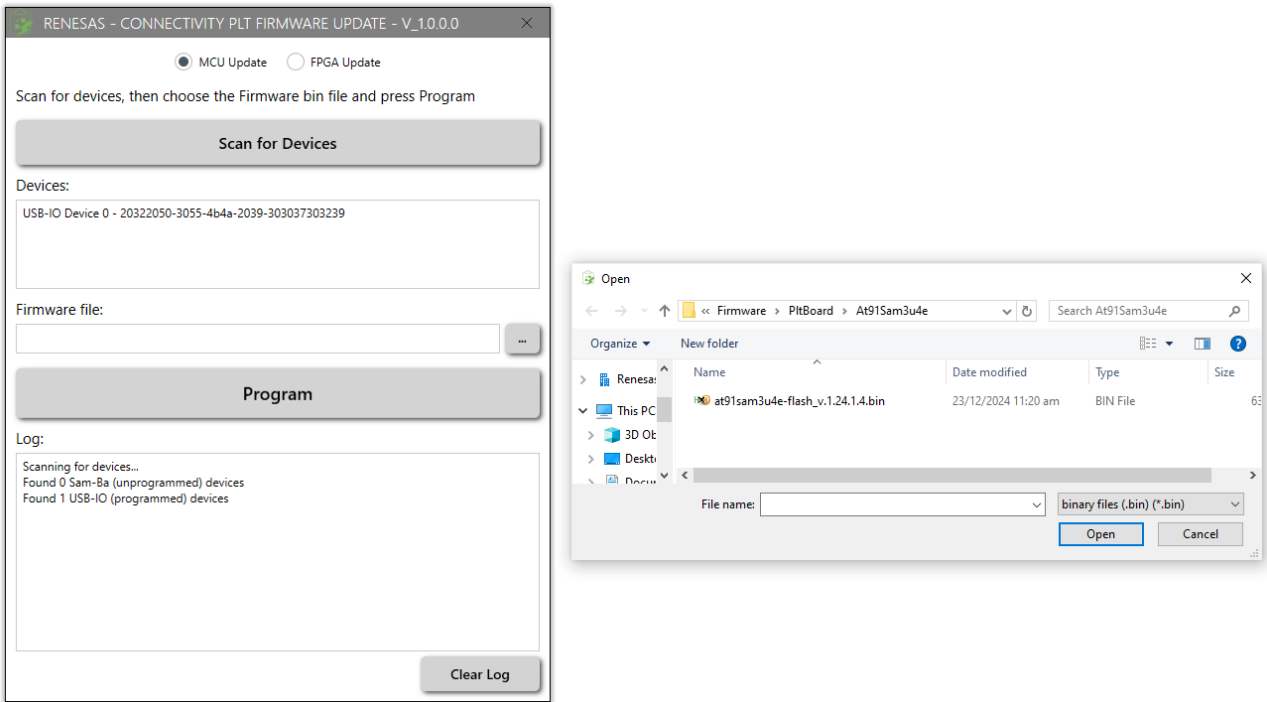

Figure 114. Firmware update file browse
3. Next specify the **Firmware file**, click the browse button (three dots), and then select the appropriate file to flash, see Figure 114.